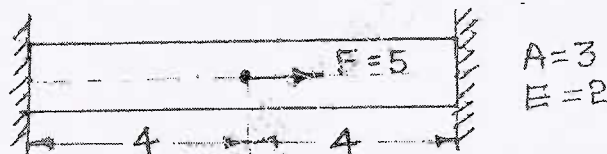

Fig.Q2(a)
- Using Rayleigh – Ritz method, determine the displacement at midpoint and stress variation in a one dimensional rod as shown in Fig.Q2(a). (09 Marks)